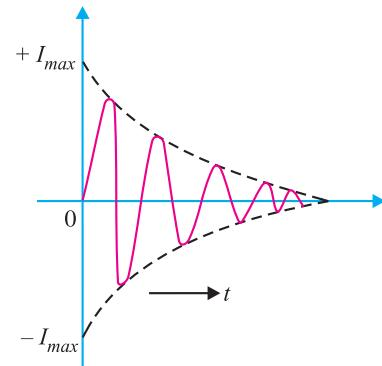

Fig. 14.3
**Waveform.** If there were no losses in the tank circuit to consume the energy, the interchange of energy between  $L$  and  $C$  would continue indefinitely. In a practical tank circuit, there are resistive and radiation losses in the coil and dielectric losses in the capacitor. During each cycle, a small part of the originally imparted energy is used up to overcome these losses. The result is that the amplitude of oscillating current decreases gradually and eventually it becomes zero when all the energy is consumed as losses. Therefore, the tank circuit by itself will produce *damped oscillations* as shown in Fig. 14.3.